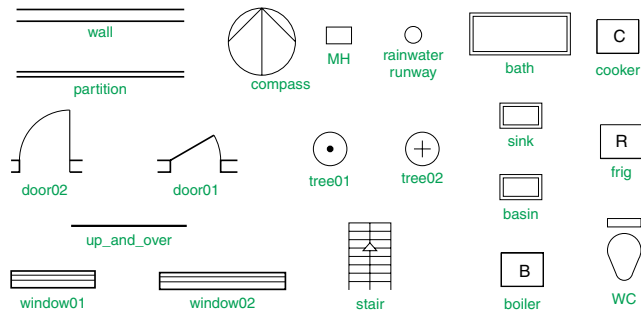
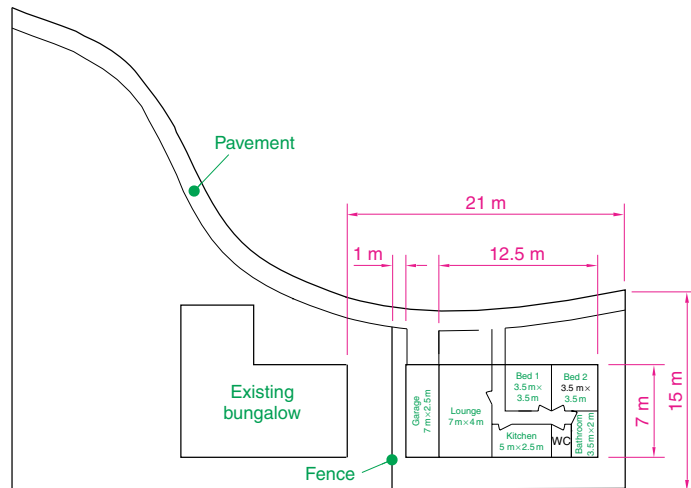

Fig. 12.8 A small library of building symbols
Fig. 12.9 Exercise 1
When constructing floor layout drawings it is advisable to build up a library of block drawings of symbols representing features such as doors, windows, etc. These can then be inserted into layouts from the DesignCenter. A suggested small library of such block symbols is shown in Fig. 12.8.
- Fig. 12.9 is a site plan drawn to a scale of 1:200 showing a bungalow to be built in the garden of an existing bungalow. Construct the library of symbols shown in Fig. 12.8 and by inserting the symbols from the DesignCenter construct a scale 1:50 drawing of the floor layout plan of the proposed bungalow.